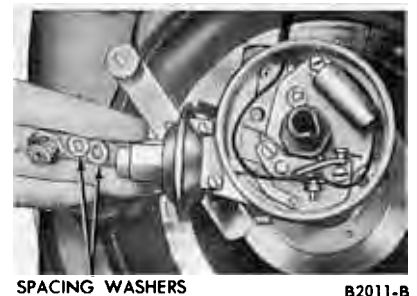

FIG. 17—Vacuum Advance Adjustment
4. If the advance is incorrect, change the calibration washers between the vacuum chamber spring and nut (Fig. 17). After installing or removing the washers, position the gasket in place and tighten the nut. **The addition of a washer will decrease advance and the removal of a washer will increase advance.**
4. If the advance is incorrect, change the calibration washers between the vacuum chamber spring and nut (Fig. 17). After installing or removing the washers, position the gasket in place and tighten the nut. **The addition of a washer will decrease advance and the removal of a**